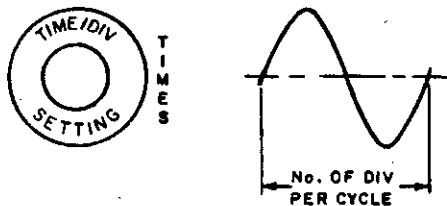

Figure 2-6. Finding the Frequency
3. Take the reciprocal of the product obtained in Step 2 (that is, divide it into one). The resulting quotient is the desired frequency or repetition rate in cycles per second. See Figure 2-6.